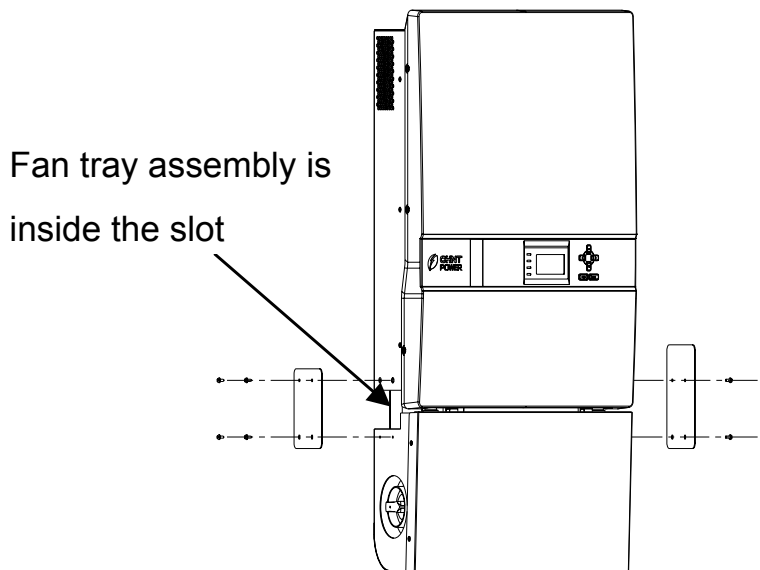

Figure 6-1 Removal of panels on both sides
- (1) Screw off the bolts and remove the two panels on both sides of the inverter as shown in Figure 6-1;